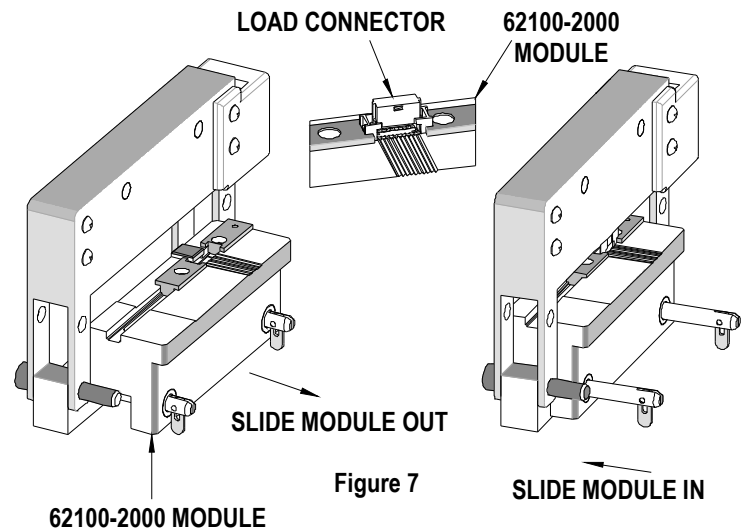

Figure 7
3. Push the IDT Ribbon Cable Module into the termination position. See Figure 7.